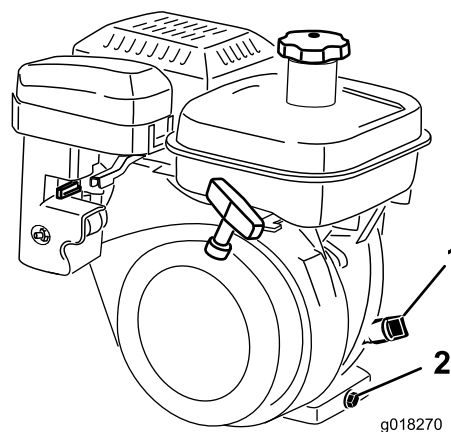

Figure 30
2. Position the mower so the engine is level and clean around the oil level gauge (Figure 30).
3. Remove the oil level gauge by rotating it counterclockwise (Figure 30).
5. Then remove and check the level of the oil. If the level is low, add only enough oil to raise the level until it is between the "H" and "L" marks on the gauge (Figure 30).
2. At the rear of the machine, place a drain pan under the drain plug (Figure 30).